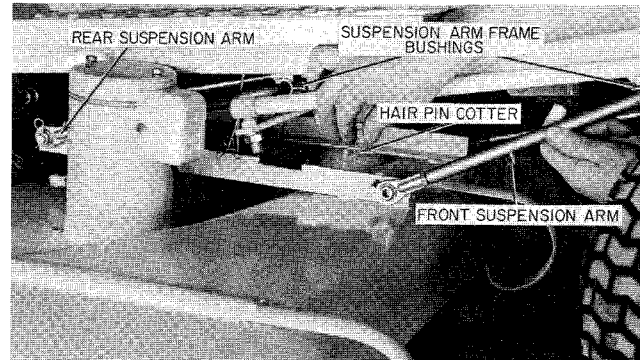
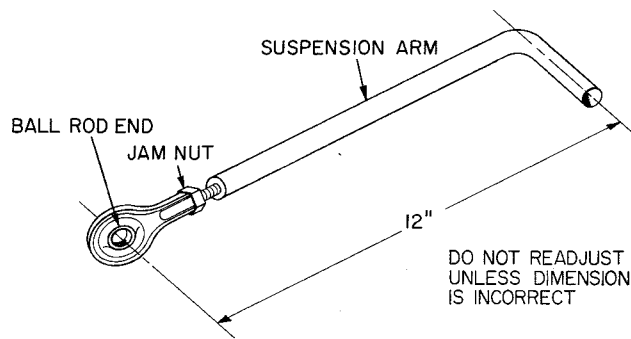

Figure 11
Figure 14
7. Insert all four suspension arms in their respective frame bushings so their lower ball rod ends lay on the mower deck near their mounting pins. (See Figure 11.) Do not readjust suspension arms. These are factory adjusted as shown in Figure 14.